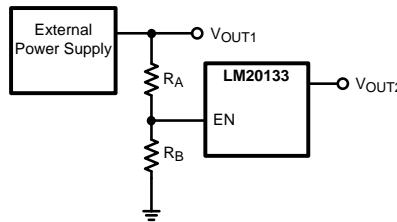

Figure 34. Sequencing LM20133 with Precision Enable
The precision enable (EN) and power good (PGOOD) pins of the LM20133 can be used to address many sequencing requirements. The turn-on of the LM20133 can be controlled with the precision enable pin by using two external resistors as shown in Figure 34.